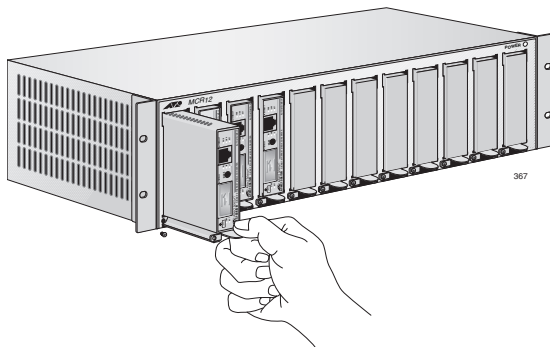

Figure 16. Sliding the AT-MC1008/GB into the AT-MCR12 Chassis Slot
- Install the AT-MC1008 Series converter in the AT-MCR12 chassis slot by sliding the mounting guide into the guide channel in the slot, as illustrated in Figure 16.